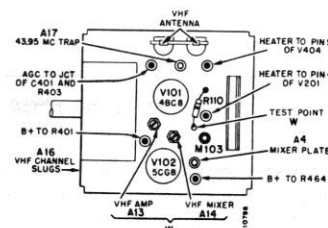

Figure 20. Top View of VHF Tuner 94D144-19 Showing Adjustment Locations.
- See figure 20 for adjustment locations and identification.
An RF interference trap is contained in the antenna circuit of the VHF tuners, see Figures 20, 33 and 36. At the factory, this trap is aligned for minimum response at 43.95 MC. The trap attenuates interfering signals in the 41 MC IF frequency range. The trap should generally never require realignment in the field. However, if RF interference is experienced from radio transmitters or other sources at frequencies (harmonics or fundamentals) in the 41 MC range, the trap may be realigned to minimize the interference. The trap may be tuned while observing the picture. However, if the interference is intermittent, it will be difficult to adjust and the following procedure is recommended.
- Using a non-metallic alignment tool with 5/16" hexagonal shank (part number 98A30-12), adjust trap A17 (see figure 20) for minimum VTVM reading at test point "V".
The simplified circuitry and mechanical construction of these tuners make them relatively trouble-free and easy to service. Tuner voltages (B plus, AGC and heater) may be measured from terminals on top side of tuner. See figure 20. All components at the underside of the tuner can be serviced without the removal of the turret assembly. See exploded view of tuner, figure 30.